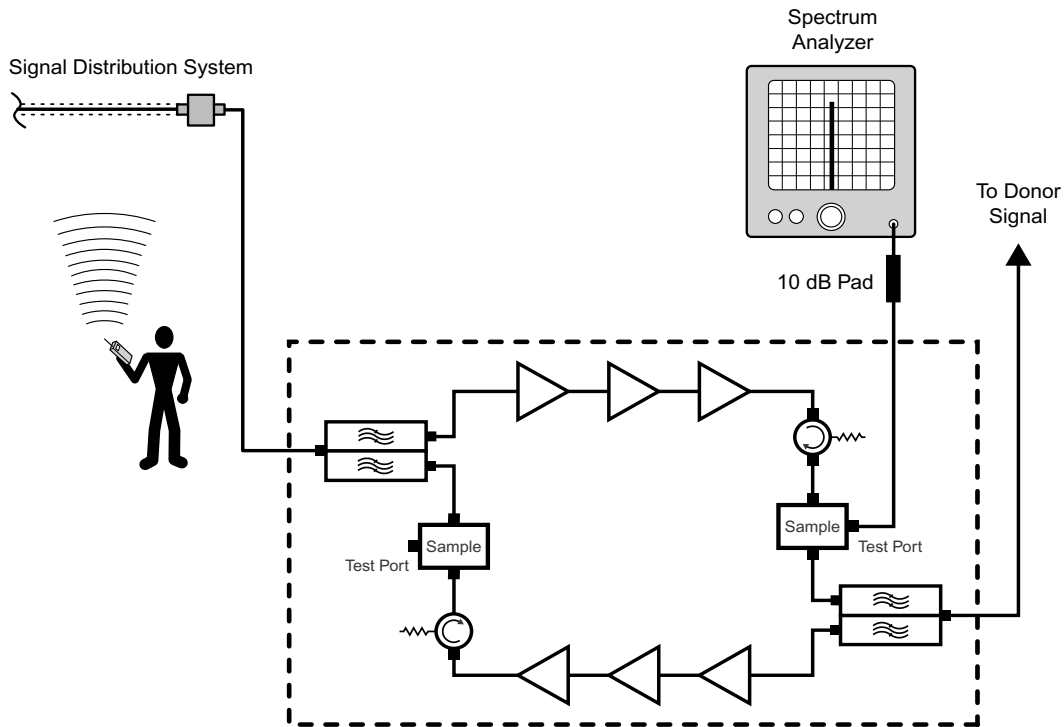

Figure 9: Methodology for doing a performance survey of the signal distribution system.
- 3) With a spectrum analyzer connected to the signal sampler port (see **Figure 9**), have personnel with handheld radios move to several predetermined points and key their radios. Record the level of these signals as observed on the analyzer and also record the location of the person transmitting. In this way, a map of the systems performance can be generated.